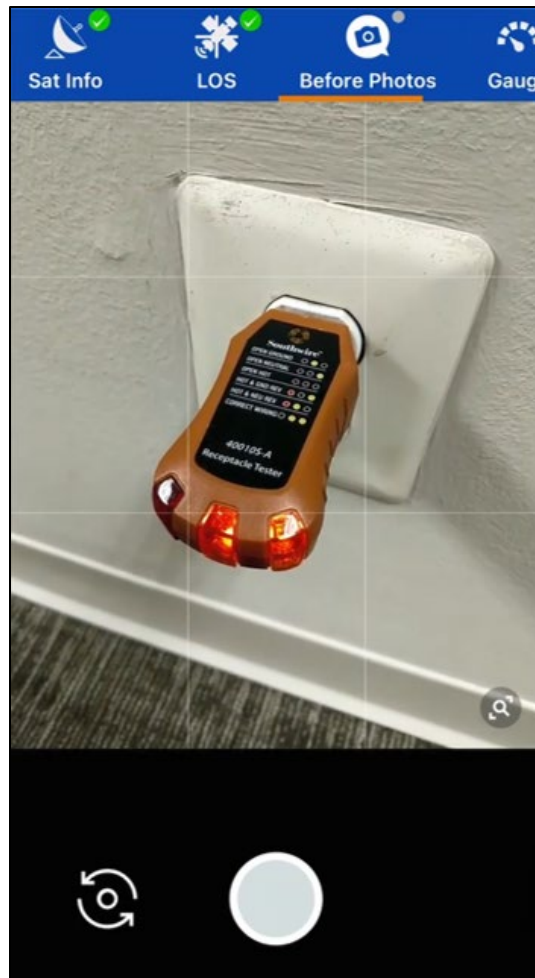

Figure 40: Before Photos – Camera
1. Tap the name of the photo. Your smart device's camera launches (Figure 40).